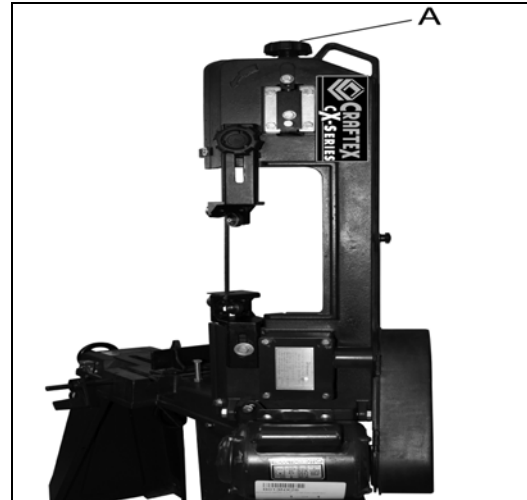

Figure 4
- Turn the blade tension hand-wheel (A) (see Fig.4) clockwise to increase or counterclockwise to decrease the blade tension. The correct tension is obtained when the blade is just tight